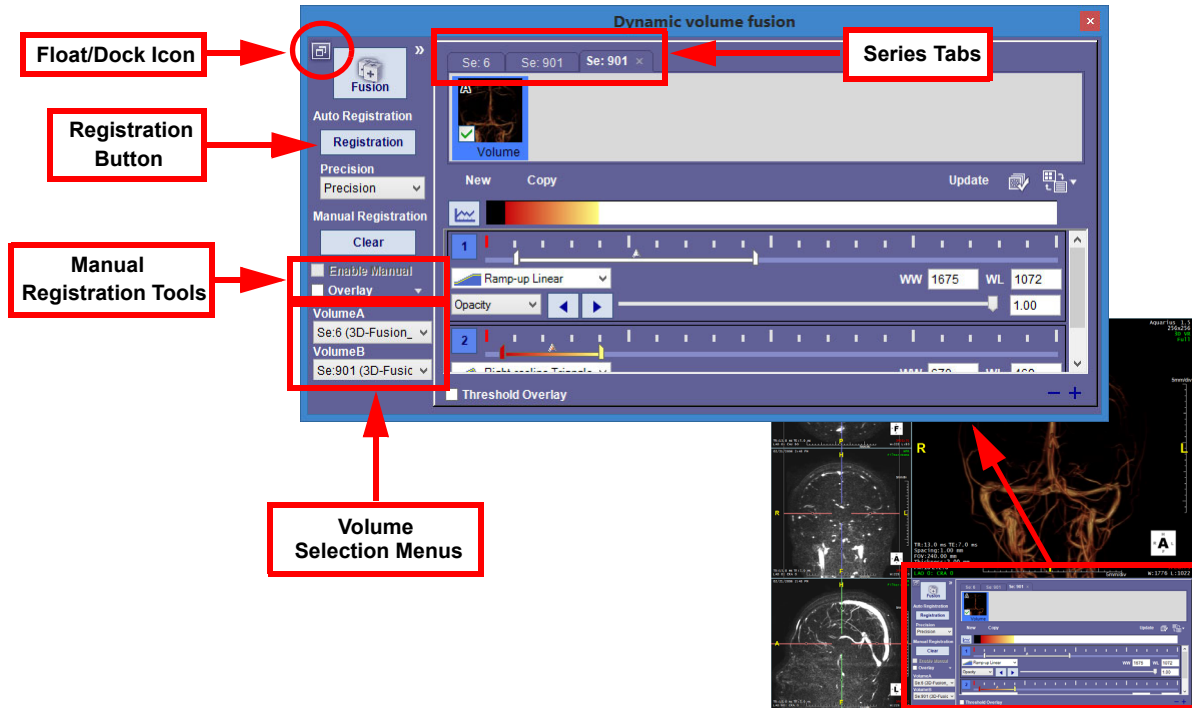

Figure 19-2: Dynamic Volume Fusion Tool Panel
When dynamic volume fusion is opened, the layout is changed to 3x1, with the volume image in the main view, and MPR images in a column on the left side of the viewer. The Fusion tool panel is located just below the 3D VR image (see Figure 19-2).
Registration is performed on two volumes at a time, referred to as **VolumeA** and **VolumeB**. Before beginning the registration, select the two volumes to be registered in the volume selection menus (see Figure 19-2).
1. Click the **Overlay** checkbox (see Figure 19-2 on page 19-2).